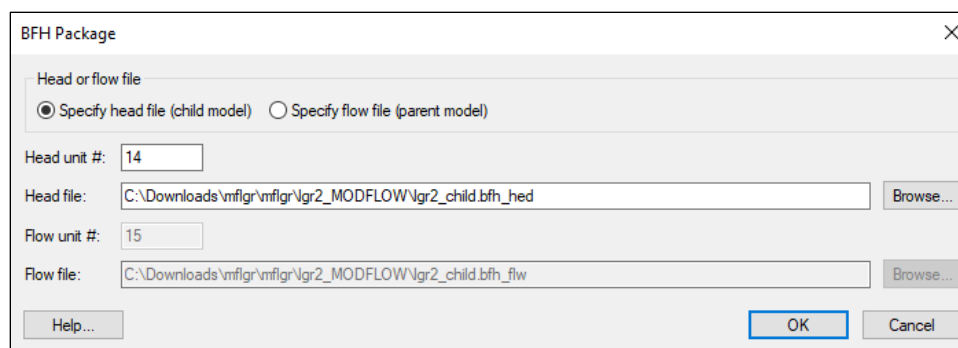

Figure 14 BFH Package dialog
7. Under the “ child” grid, right-click on “ MODFLOW” and select *Optional Packages | BFH – Boundary Flow and Head* to open the *BFH Package* dialog (Figure 14).